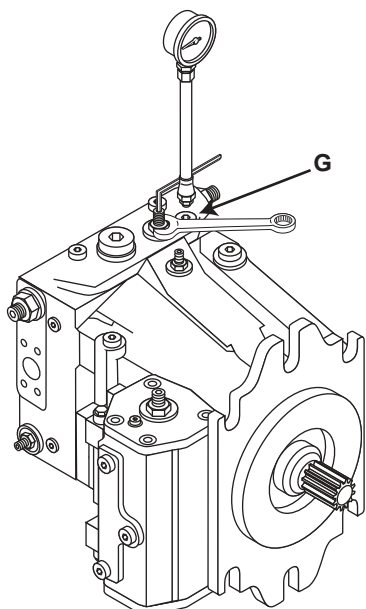

Figure 27. Charge Pressure Adjustment
4. Remove 1/4" plug (Fig. 27) on the "CPG" port of the hitch manifold and insert a 600 psi gage with the necessary adapters to hook to an 04MB port.
2) If the pressure is below 380 or above 420, an adjustment should be made to the charge pressure relief valve. To access the relief valve adjustment, you may have to remove the protective plastic cap located on the topside of the pump beside the port marked “G” (Fig 27). Using a 17mm box wrench with a 5mm allen wrench, loosen the jam nut and turn set screw clockwise if the pressure is low. If the pressure is high, loosen the jam nut and turn set screw counterclockwise. One turn is equal to 55 psi.